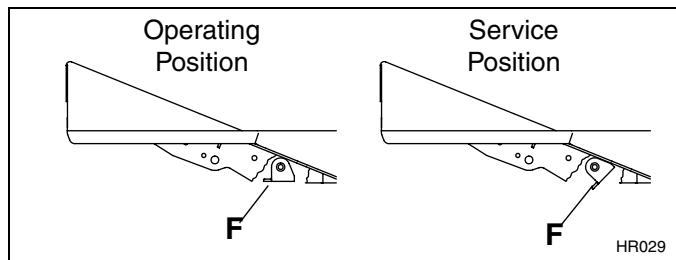

Figure 3C
1. Rotate anti-sway mechanism (**F**), located under left side floor panel, to Service position. Figure 3C
4. Rotate anti-sway mechanism (**F**) to it's operating position. Figure 3C